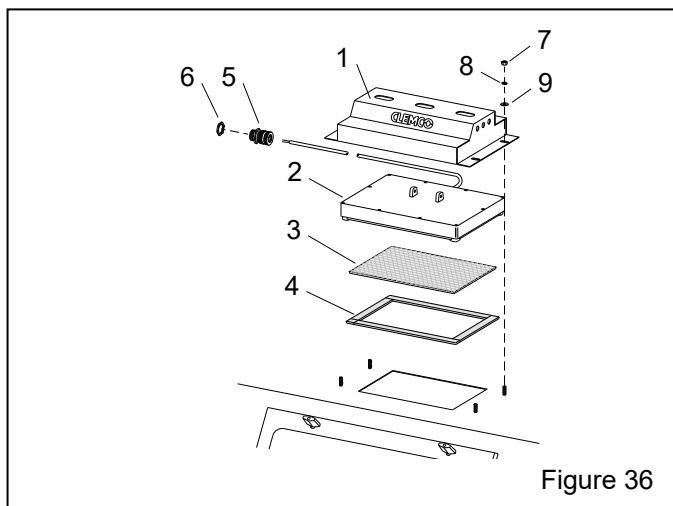

Figure 36
9.4 LED Light Assembly – Figure 36